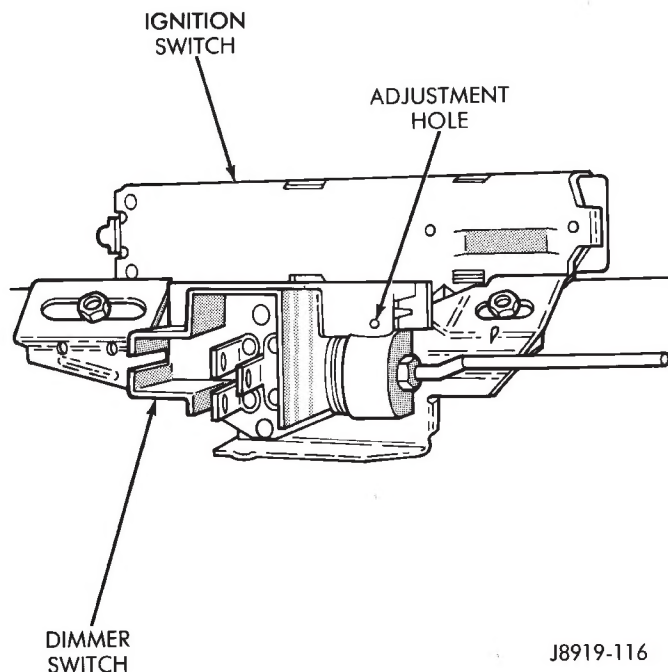

Fig. 11 Ignition Switch/Headlamp Dimmer Switch—Typical
The ignition switch is mounted under the instrument panel on the lower section of the steering column. The headlamp dimmer switch is mounted beside the ignition switch (Fig. 11). Both of these switches (ignition and dimmer) share the same mounting screws.
(8) Adjust dimmer switch as follows: Depress the switch slightly and insert a 3/32-inch drill bit into the adjustment hole (Fig. 11). This is done to prevent horizontal switch movement.
(9) Move switch toward steering wheel to remove any lash from switch actuator rod. Tighten dimmer and ignition switch fasteners to 4 N·m (35 in. lbs.) torque.
(10) Install the windshield wiper intermittent control module and its bracket (if equipped).
(11) Install the negative battery cable.